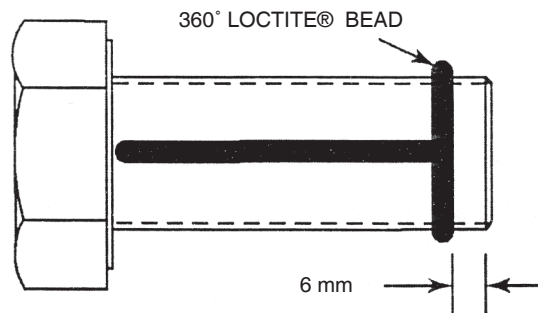

Figure 4.13
- Apply a 0.125-inch (3 mm) bead of Loctite® 242 threadlocker around the capscrew threads approximately 0.25-inch (6 mm) from the end. Apply a 0.125 inch (3 mm) bead of Loctite® 242 threadlocker across the length of the threads. Figure 4.13.